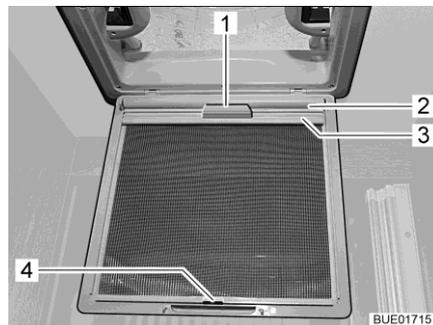

Fig. 110 Blind (skylight)
- Using the handle (Fig. 110,1), pull out the blind (Fig. 110,2) and hook the retainer (Fig. 110,3) into the hook (Fig. 110,4) on the insect screen.
- Release the retainer (Fig. 110,3) from the hook (Fig. 110,4) and, using the handle (Fig. 110,1), slowly return the blind (Fig. 110,2).